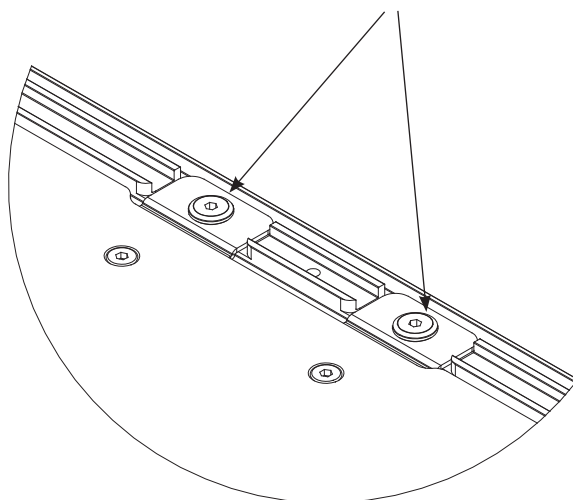
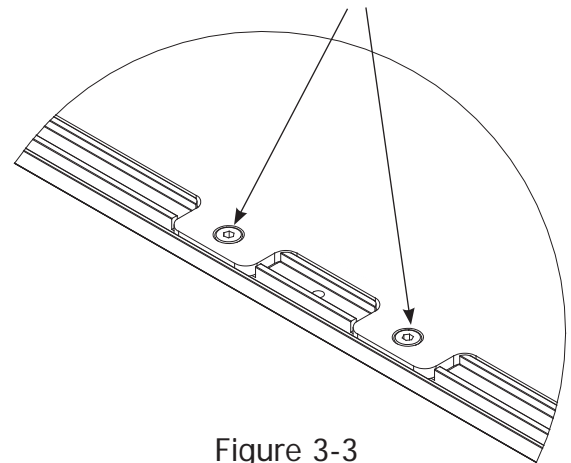

Figure 3-2
Figure 3-3
3-2: Check the (10) large washer head screws on the track supports on the adjusting bracket side to make sure they are tight. (**Fig. 3-2**) Check the (10) flat head screws on the track support without adjusting brackets to confirm they are tight. (**Fig. 3-3**) These screws turn and tighten into the track support.